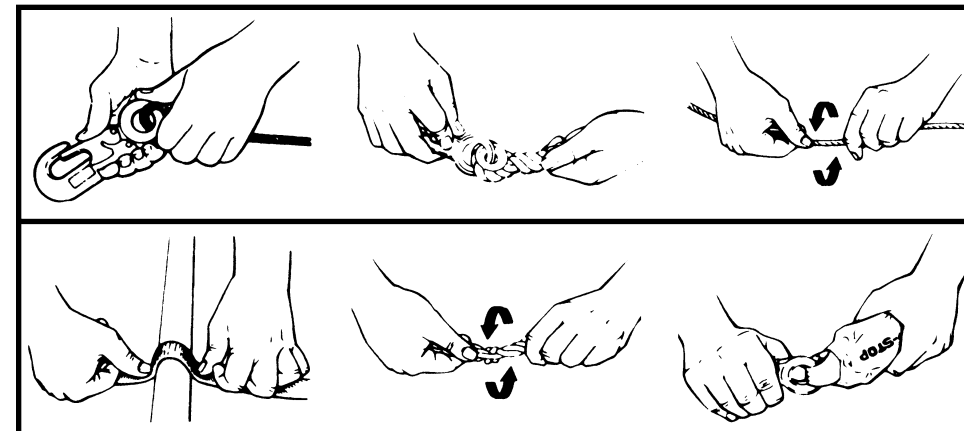

Fig. 4 LANYARD INSPECTION
b. Eyelets: The eyelet must be firmly seated in the eye of the splice, and the splice should have no loose or cut strands. The edges of the eyelet must be free of sharp edges, distortion, or cracks (Fig. 4).